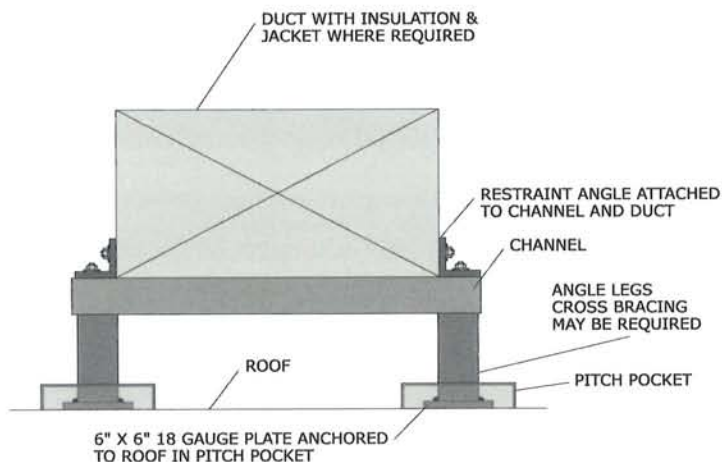

Figure 51: Duct mounted and directly attached to the roof in a pitch pocket.
- Mounted to an angle support attached directly to the roof in a pitch pocket to seal the roof (Figure 51, page 45).